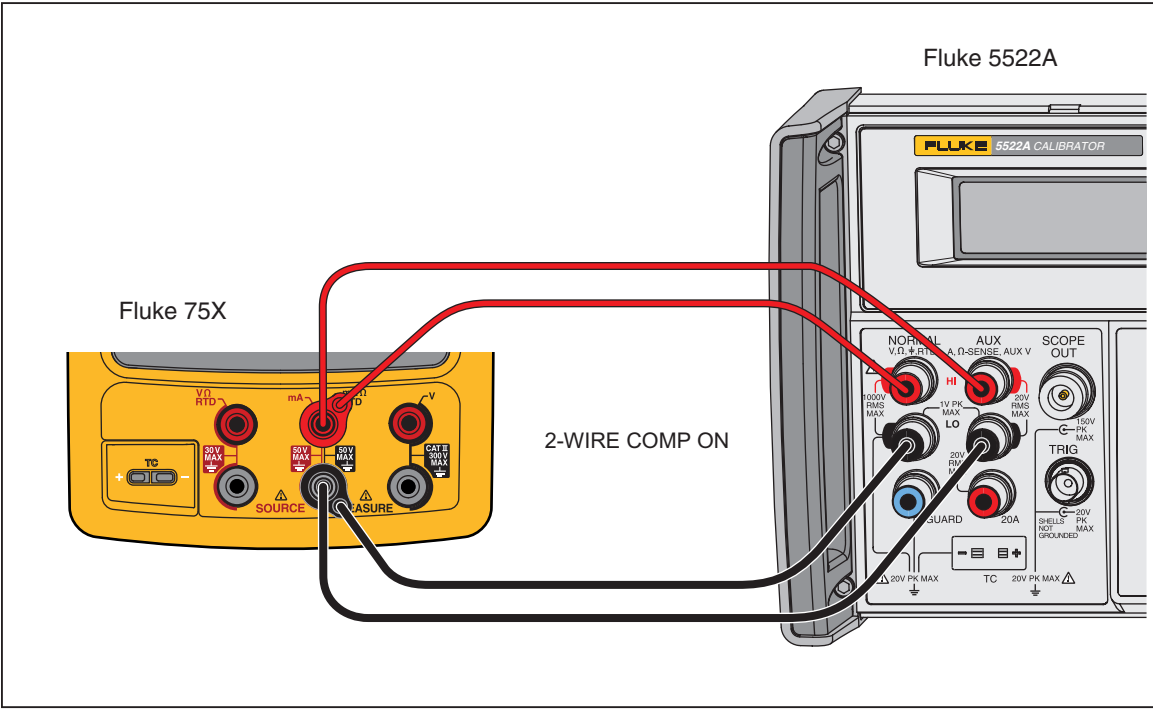

Figure 3. Resistance Measurement Verification Connections
1. Connect the UUT to the 5522A as shown in Figure 3.